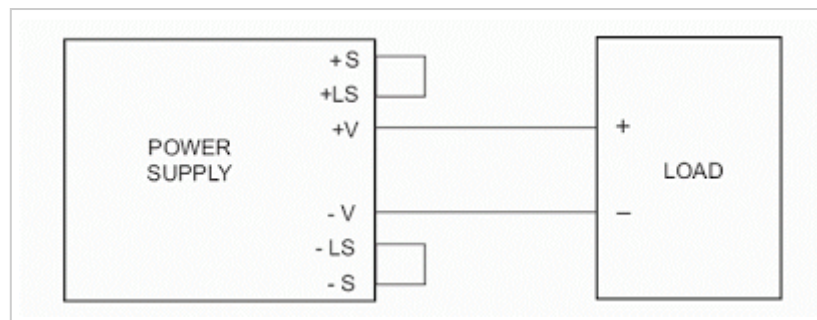

Fig. 2: Power Supply with Local Sense Jumpers Installed
When not using the remote sense feature, Local Sense (LS) connections should be used. In this case the +/-Sense points should be connected to their corresponding output or local sense terminals at the power supply (+Sense to +V output or +LS and, -Sense to -V output or -LS). Most power supplies are shipped from the factory with these "Local Sense" connections in place. Refer to Figure 2.